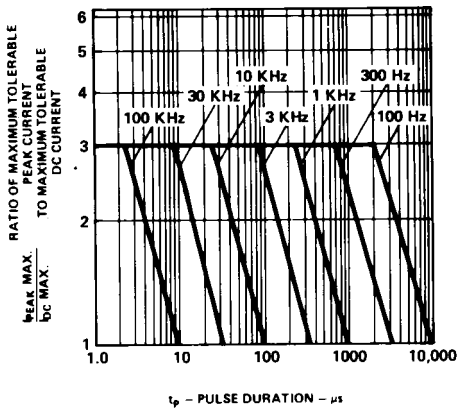

Figure 2. Maximum tolerable peak current vs. pulse duration. ( $I_{DC\text{ MAX}}$  as per MAX ratings).
- See Figure 2 to establish pulsed operating conditions.